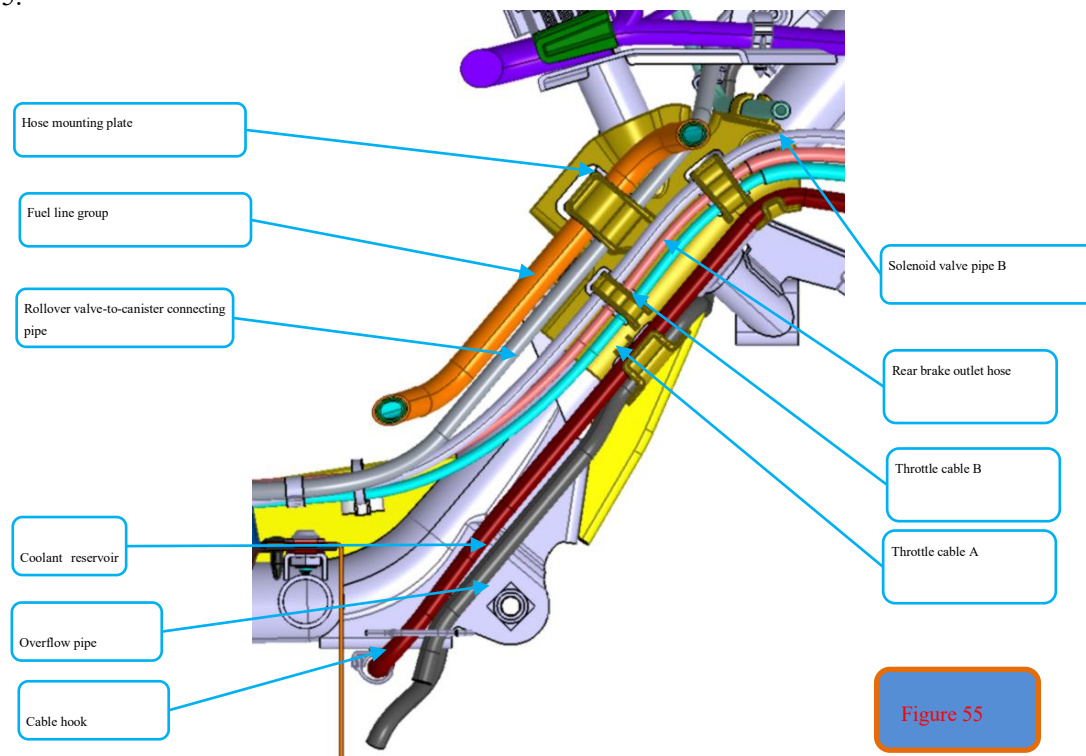

Figure 55
- (1) Secure the fuel pipe group, rollover valve-to-canister connecting pipe, coolant reservoir hose, overflow pipe, solenoid valve connecting pipe B, rear brake outlet hose, and throttle cables A and B inside the slot of the pipeline mounting plate as per Figure 50, as shown in Figure 55.
- (2) Secure the coolant reservoir hose and the overflow pipe inside the frame cable hooks, as shown in Figure 55.
(6) Secure the water temperature sensor harness inside the dust cover slot as shown in Figure 55. The magneto connector and speed sensor connector are secured at their corresponding positions on the dust cover, as shown in Figure 60.